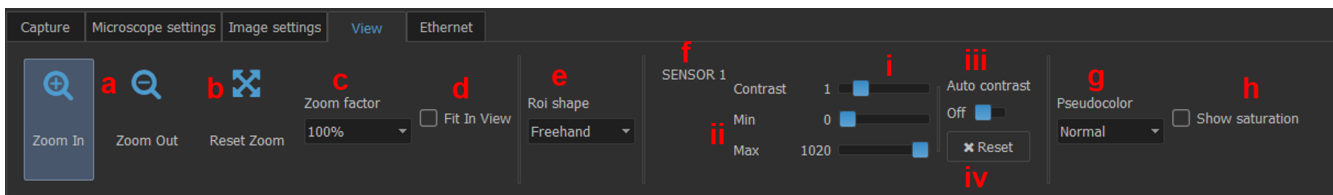

Figure 4.8: View Tab
- a) The **Zoom In/Zoom Out** buttons (Fig. 4.8) will increase/decrease the zoom of the sensor image.
- b) The **Reset Zoom** button (Fig. 4.8) will reset the **Zoom factor** to 100%.
- c) The **Zoom Factor** drop-down list (Fig. 4.8) allows the selection of a zoom factor from a pre-set list. The box will also display the current zoom if it was changed using different buttons.
- d) The **Fit In View** button (Fig. 4.8) resize the image to fit the size of the Image Viewer box.
- e) The **Roi shape** drop-down list (Fig. 4.8) allows the selection of the shape used when drawing a **Region Of Interest** onto a sensor image. These shapes include **Freehand, Circle, Rectangle** and **Square**.
- f) The **SENSOR** section (Fig. 4.8) is used to adjust contrast on a given sensor. When a microscope used has multiple sensors, multiple **SENSOR** sections will be displayed, one for each sensor.
- i. The **Contrast** slider (Fig. 4.8) allows the adjustment of contrast from 0.1 to 5.
- ii. The **Min/Max** sliders (Fig. 4.8) indicate the minimum/maximum number of counts displayed. Should the **Min** be above 0, all pixels with lower count will display a minimal value. Should the **Max** be below 1020, all pixels with a higher count will appear saturated.
- iii. The **Auto contrast** slider button (Fig. 4.8) will active an automatic contrast adjustment algorithm.
- g) The **Pseudocolor** drop-down list (Fig. 4.8) allow the sensor image color palette to be changed.
- h) The **Show saturation** checkbox (Fig. 4.8) allows all saturation on the sensor image to be displayed in red. This function is only available if no pseudocolor is selected.